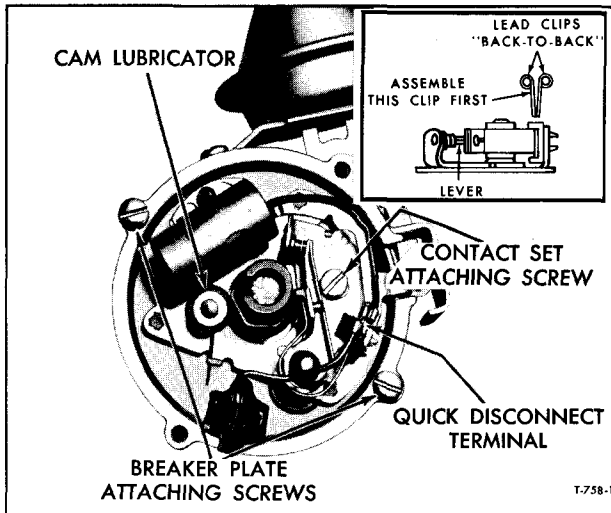

Figure 4—Breaker Plate Attaching Parts (V6 Engine)
3. Set timing to 10 degrees before upper-dead-center (BUDC). If timing mark does not align with pointer, loosen distributor mounting clamp cap screw (fig. 4 or 5) and rotate distributor body as required to synchronize timing light flashes with timing mark on engine crankshaft pulley.
2. If knock is evident, loosen distributor mounting clamp cap screw (fig. 4) and turn distributor housing clockwise to retard spark until knock is eliminated.
Distributor is mounted on top center of cylinder block at rear of engine and is driven from the engine camshaft by means of spiral cut gears. A gasket is used between the distributor housing flange and the cylinder block. A mounting clamp and cap screw is used to hold the distributor securely in place (fig. 4), and a drive gear, on lower end of the distributor shaft, has a hexagonal opening in the lower end which engages the oil pump shaft to drive the oil pump. The model number is stamped on the distributor housing.
3. Pull primary and condenser lead wires from contact point quick-disconnect terminal (fig. 4).
to terminals (fig. 4). Lead clips must be assembled "back-to-back." Push clip nearest the contact lever down between the spring and locator, then push the remaining clip down between the first clip and locator. Do not push on the spring.